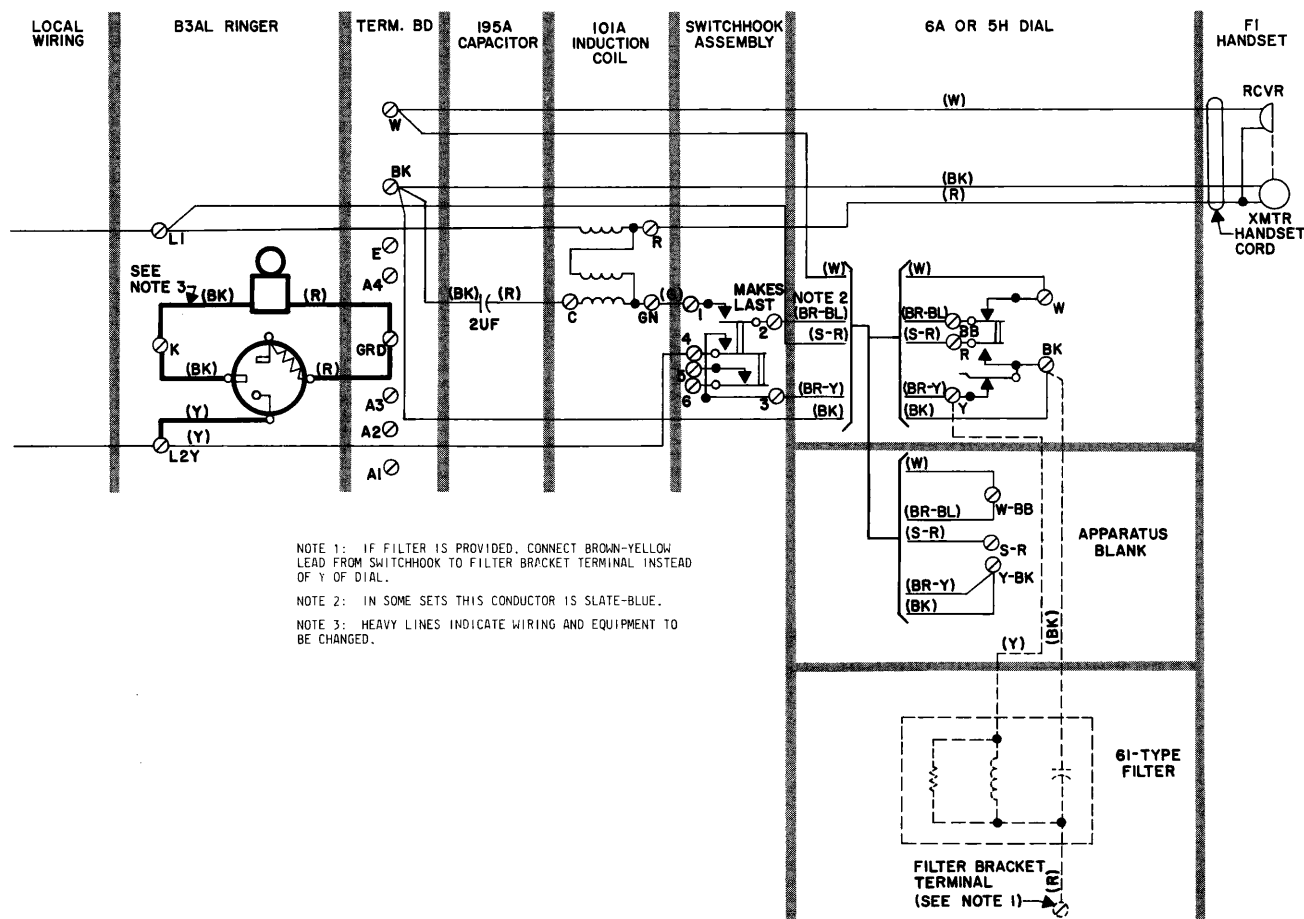
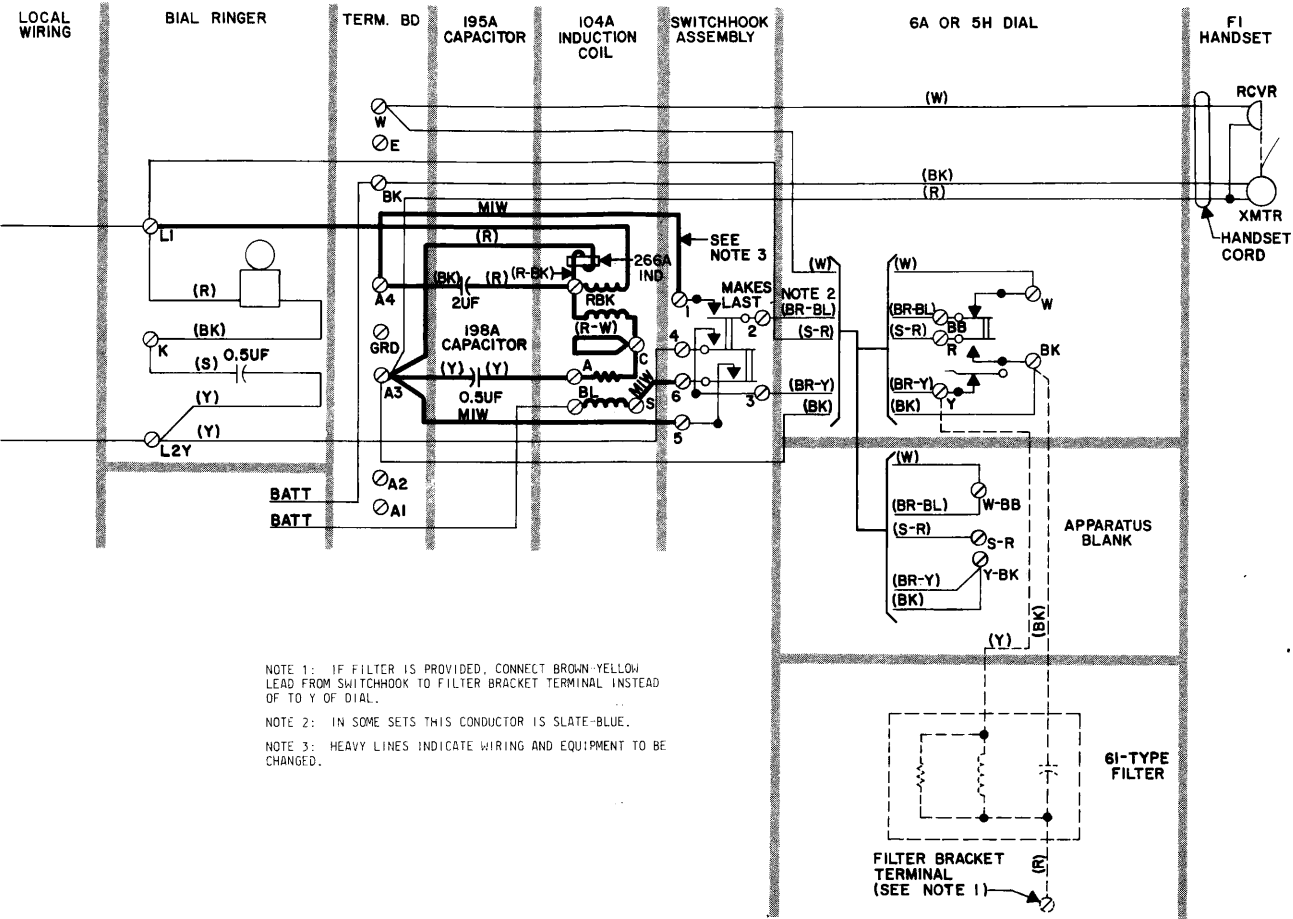
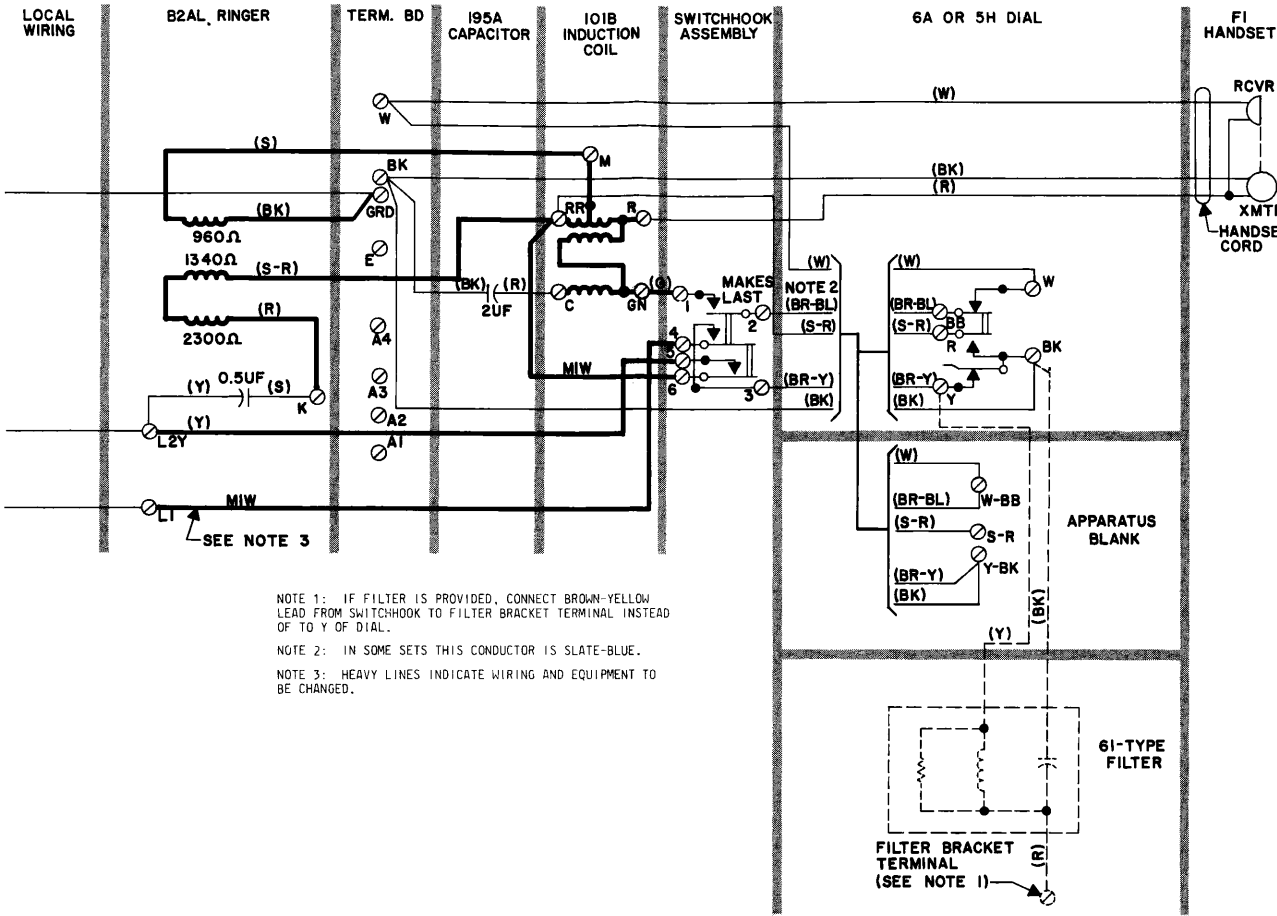

Fig. 3 — Circuit Diagram for 325J, L, M, and N Telephone Sets, Modified for Use on 4-Party Selective and 8-Party Semiselective Lines
Fig. 4 – Circuit Diagram for 325J, L, M, and N Telephone Sets, Modified for Use on Local Battery Talking and Common Battery Signaling Lines
Fig. 5 – Circuit Diagram for 325J, L, M, and N Telephone Sets, Modified for Tip Party Identification
- 2.04 Table B and Fig. 3, Table C and Fig. 4, and Table D and Fig. 5 show modified connections for the 325J, L, M, and N telephone sets.
325J, L, M, AND N TELEPHONE SETS MODIFIED FOR TUBE-TYPE RINGING BRIDGES (See Fig. 3)
AND COMMON BATTERY SIGNALING (See Fig. 4)
325J, L, M, AND N TELEPHONE SETS MODIFIED FOR 2-PARTY TIP STATION IDENTIFICATION (See Fig. 5)